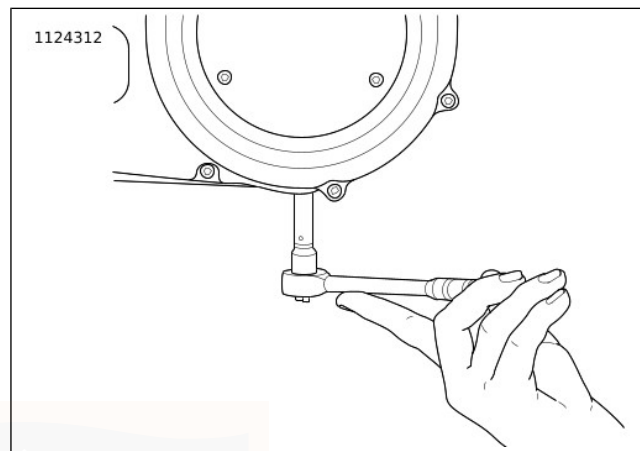

Figure 64. Removal/Installation of Chaincase Drain Plug
3. See Figure 64. Drain primary chaincase.